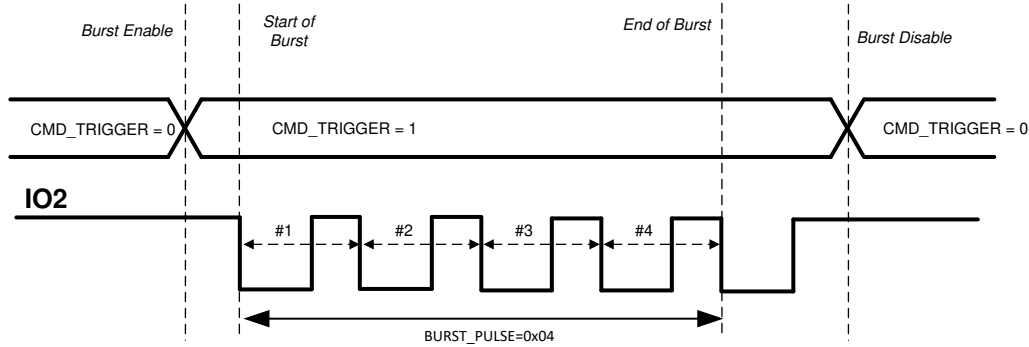

Figure 7-1. IO_MODE 0 Description
- **IO_MODE = 0:** In this mode, the external clock for the transducer is applied at the IO2 pin and the burst mode is enabled by setting the CMD_TRIGGER in the TOF_CONFIG register through SPI, as shown in Figure 7-1. The device then expects a clock at IO2 pin to generate pulses on the OUTA/OUTB pins. The start of burst happens from the first falling edge of IO2. The number of pulses are counted by counting falling edge to next falling edge transitions on IO2 once the start of burst is triggered. The end of burst sequence is signaled when the number of pulses defined in BURST_PULSE are sent, or when the CMD_TRIGGER = 0 is set through SPI, whichever occurs earlier. TI recommends that IO2 is held high before burst enable to count the number of pulses correctly. After the start of burst, the state of OUTA and OUTB pins are determined by IO1 and IO2 pins. A transition of CMD_TRIGGER from high to low to high again is required to initiate a new burst sequence.